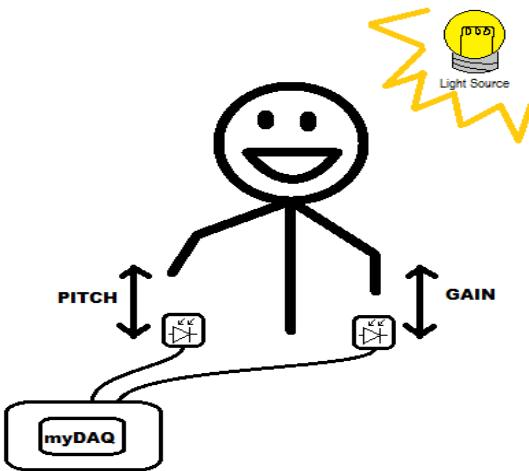

Figure 2: Usage Diagram
1. Test your system according to Figure 2